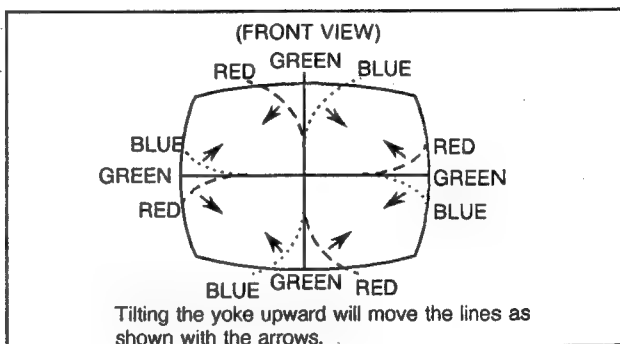

Fig.B-8
8. Tilting the angle of the yoke up, down and sideways, and adjust the yoke so as to obtain the circumference convergence. (Fig. B-8, 9)